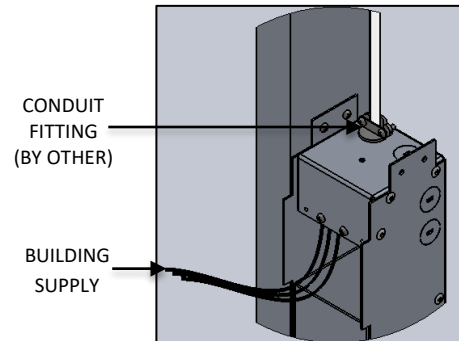

FIG. 10- DETAIL SHOWING
- Attach appropriate 1/2" CONDUIT FITTING to knockouts and run building supply connections into the box. make sure to pull the wires out through the square opening as shown below in FIG. 10 & 11.